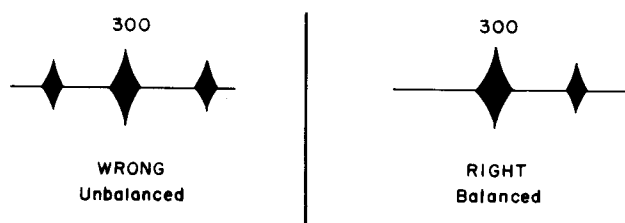

Figure 68 Balance Adjustment
2. Feed marker in at 300 MCS. Picture will be like Figure 68 if marker is slightly off frequency to either side.